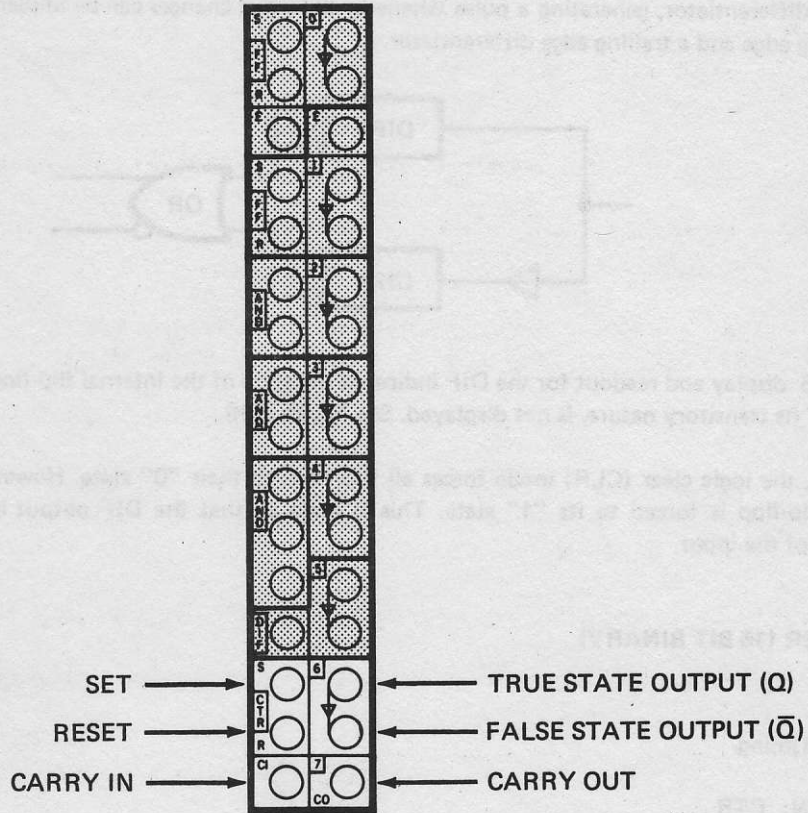

Figure 5.12 General Purpose Counter: Program Panel Terminations
A COUNTER, as indicated in Figure 5.12, is included in each General Purpose Logic Tray.
6. The Counter State flip-flop (Figure 5.12) is treated as a general purpose logic component. It can be displayed and manipulated by command from MACS. For example, the command
7. The Counter Carry Out gate (Figure 5.12) is treated as a general purpose logic component. It can be displayed by command from MACS. For example, the command